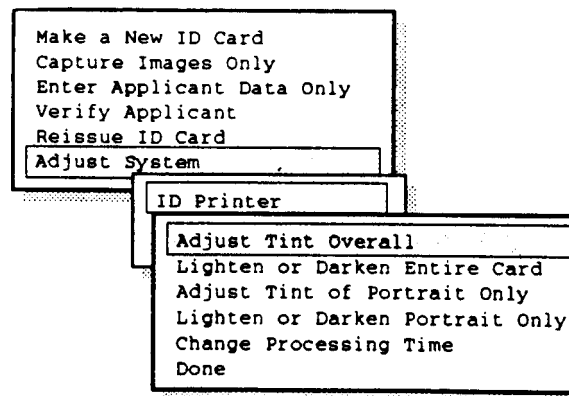

Figure 2-29 Color Printer Adjustment window
2. From the window just opened, select **ID Printer** and press <Enter> to display the Color Tint Menu (Figure 2-29).